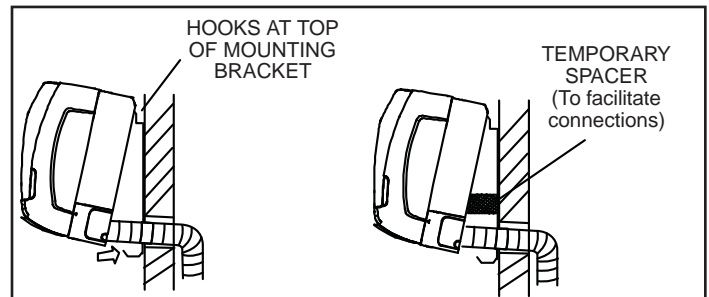

Figure 6. Secure Unit to Wall Mounting Plate
5. The bottom of the unit can be lifted to facilitate refrigerant piping and condensate drain connections, if necessary. See figure 6.